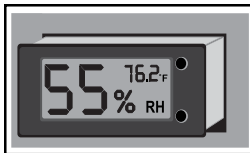

Figure 11.1
1. Remove the LCD display from the safe by lifting the edges and pulling forward and out (Figure 11.1).